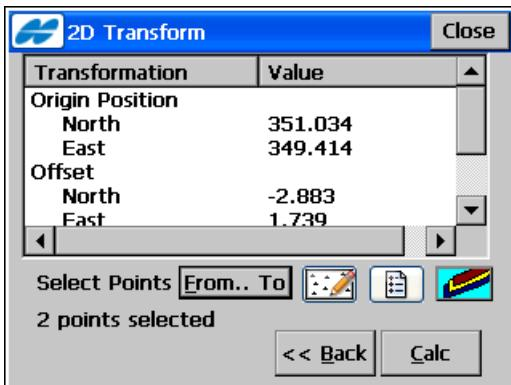

Figure 11-64. 2D Transformation Parameters
- **Next** – opens another **2D Transform** screen with the transformation parameters calculated (Figure 11-64).